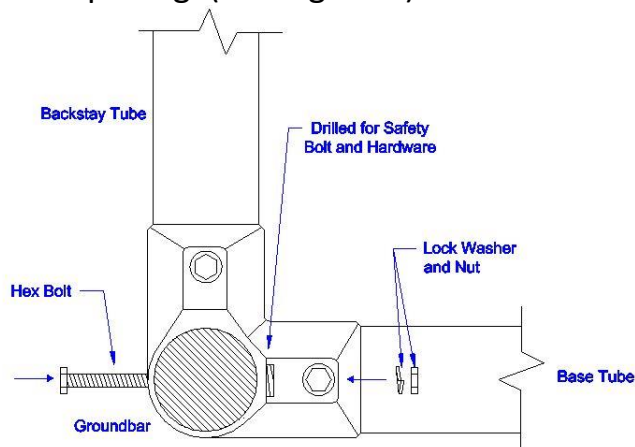

Figure 2. Groundbar coupling with Safety Hardware.
4) Carefully raise up Goal using one adult at either end of Goal Assembly. Place ends of Ground bar into castings in back of Upright/Backstay Assemblies and tighten set screws with Hex Key. (See Figure 2)
On both ends of ground bar, push $\frac{1}{4}$ " x 3-1/2" Hex Safety Bolt into Hole through side opposite of Set Screw, so that the threaded end is fed through set screw opening. (See Figure 2)